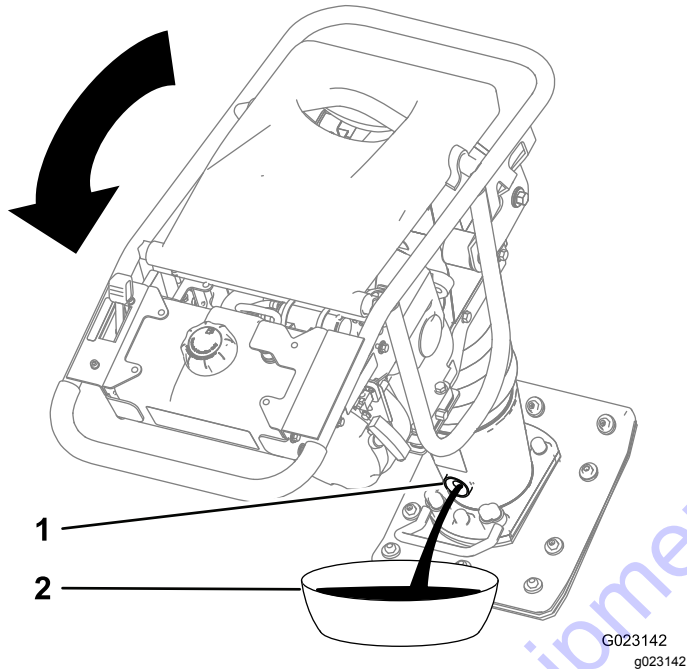

Figure 21
4. Tilt the machine so that the oil sight plug faces downward to ensure that the oil drains completely (Figure 21).
5. Place a drain pan under the oil sight plug (Figure 21).
6. Remove the oil sight plug (Figure 21).
7. Drain the oil out of the hole in the housing (Figure 21).